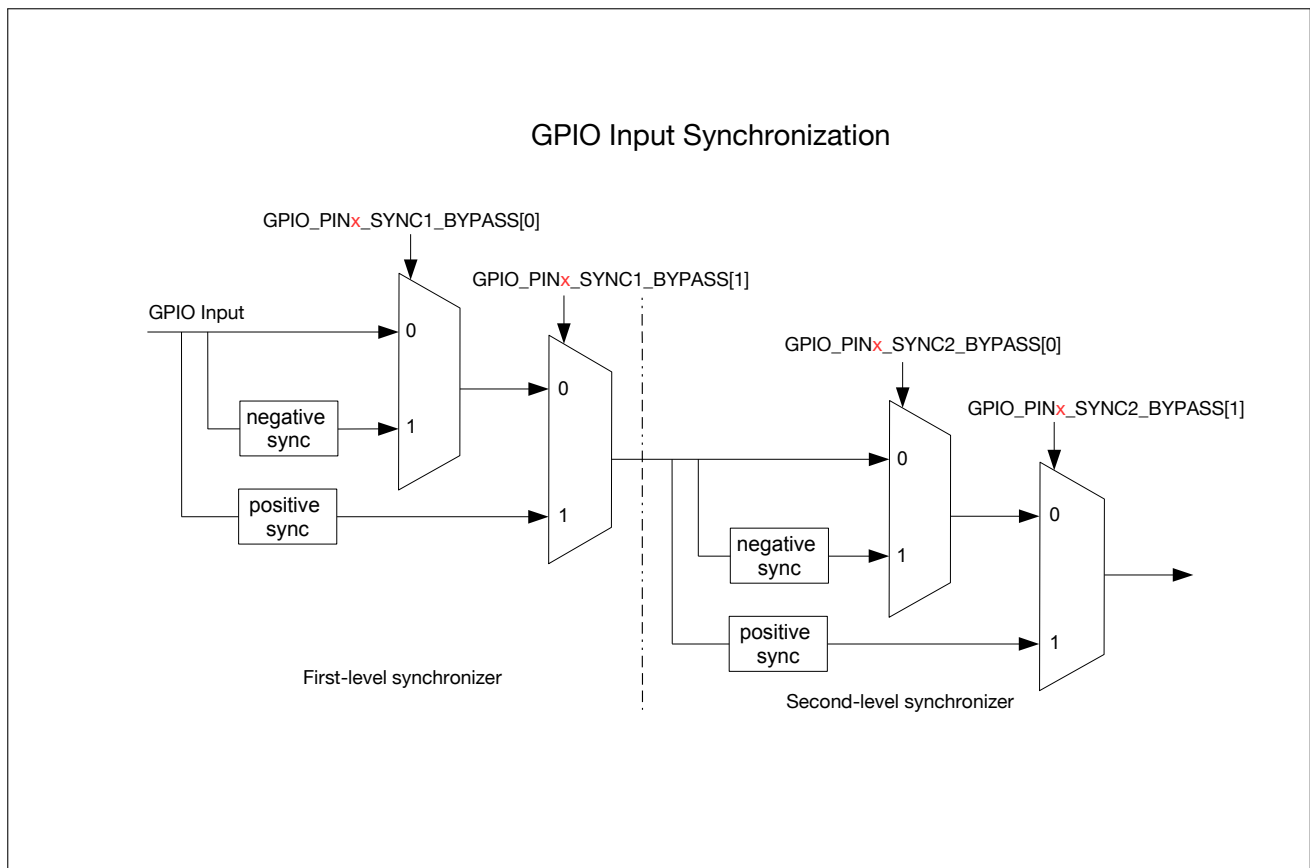

Figure 5-3. GPIO Input Synchronized on APB Clock Rising Edge or on Falling Edge
Figure 5-3 shows the functionality of GPIO SYNC. In the figure, negative sync and positive sync mean GPIO input is synchronized on APB clock falling edge and on APB clock rising edge, respectively.
- Set `GPIO_PINx_SYNC1_BYPASS` to enable input signal synchronized on rising edge or on falling edge in the first-level synchronizer, see Figure 5-3.
- Set `GPIO_PINx_SYNC2_BYPASS` to enable input signal synchronized on rising edge or on falling edge in the second-level synchronizer, see Figure 5-3.